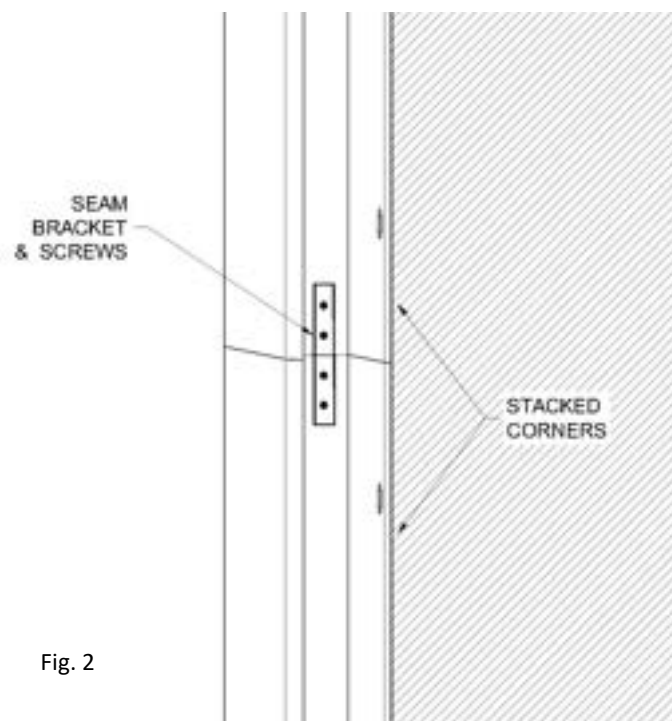

Fig. 2
6. Recommended to use a PVC adhesive to join the two pieces or install 2 seam brackets and bracket screws inside the pocket of the outside corners to tie together (Fig. 2).